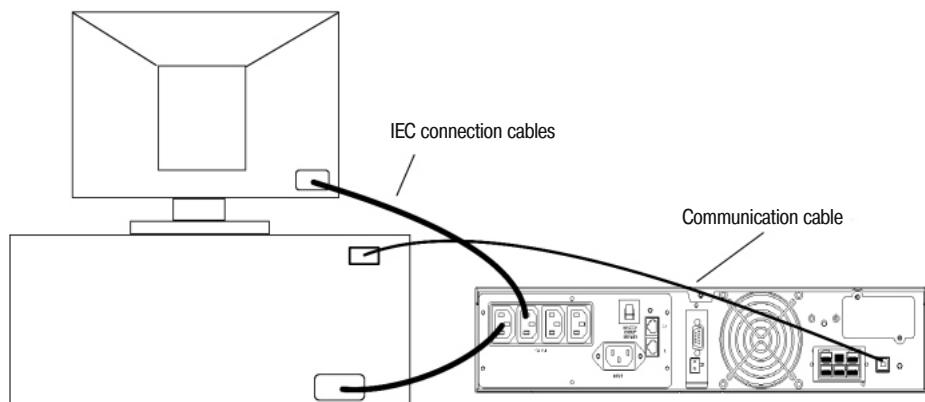

Figure 6 - Device connection example Plug&Play
4.3.2 Once charging is complete, connect the equipment to the UPS, see Figure 6 for an example.